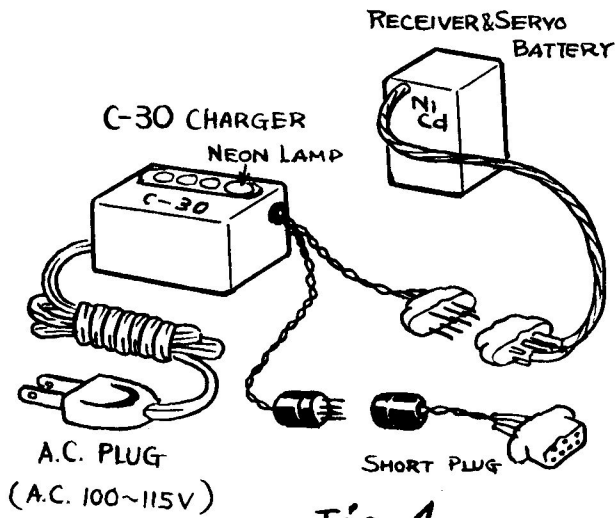

Fig. 4
- * The charging of the batteries is accomplished with our charger "C-30". Charging can be done individually, by putting the short plug on the end of charger lead wire (Fig. 4 & 5), or simultaneously by connecting as per Fig. 6. It is very important to make sure the transmitter switch is "OFF" when charging the batteries and voltage checking.